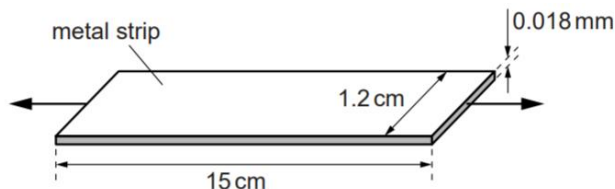

Fig. 8.2
- b) Fig 8.2 shows a metal strip pulled from its ends until it breaks.